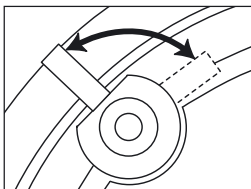

Figure 3. Mounting "dog" rotation
1. Remove the top piece of styrofoam from the box. You will find two loudspeakers bagged in a lower portion of packing. Remove the loudspeaker from the bag. The metal grille is installed on the loudspeaker and will need to be removed. This is easily done by rotating the mounting 'dogs' out with your fingers and pulling them towards the front of the loudspeaker. This will push the screw heads against the inside of the grille to work it out of the baffle. (See **Figure 3**)